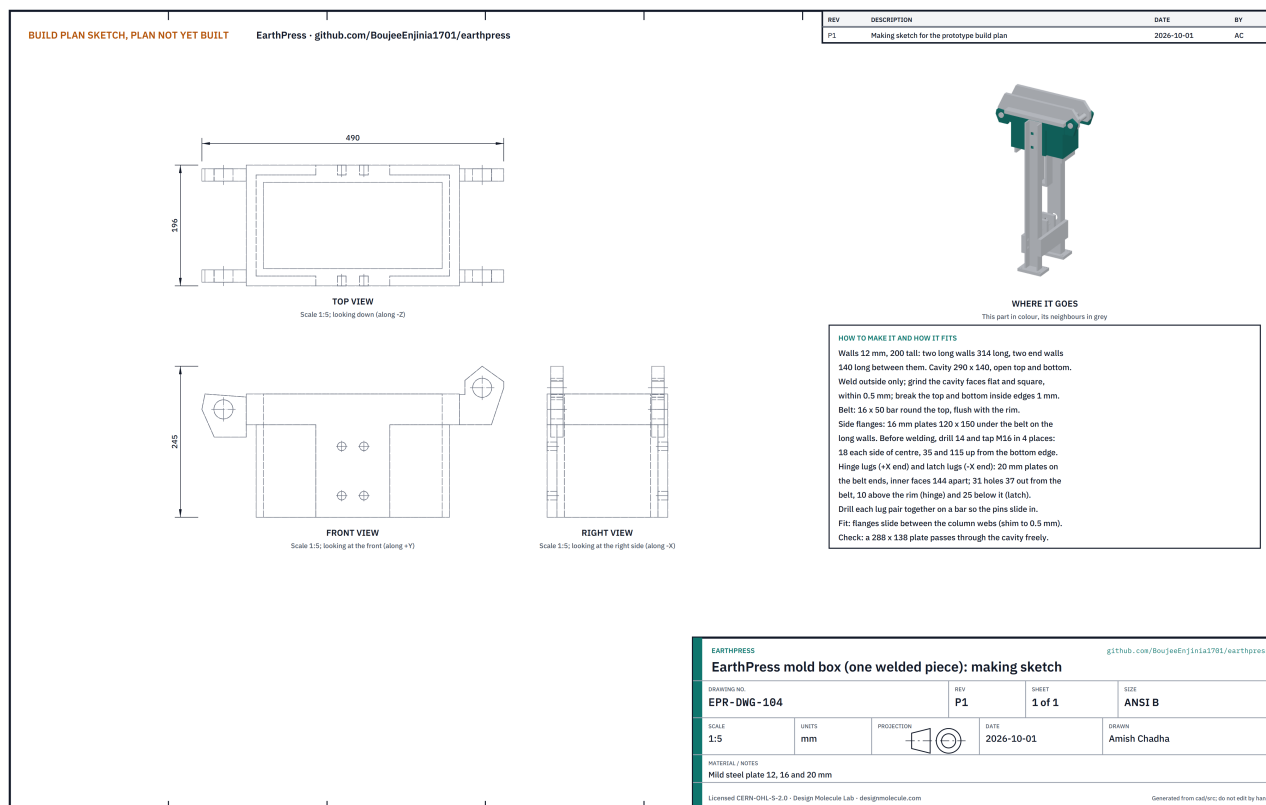

Figure 7. Mold box making sketch (EPR-DWG-104).
6. Cut four lugs from 20 mm plate (Figure 7). Drill each pair together with a 31 drill on one bar. Weld the hinge lugs to the right end of the belt and the latch lugs to the left end, inner faces 144 apart, with a 30 bar through each pair so the holes stay in line: the hinge holes 37 out from the belt and 10 above the rim, the latch holes 37 out and 25 below the rim.